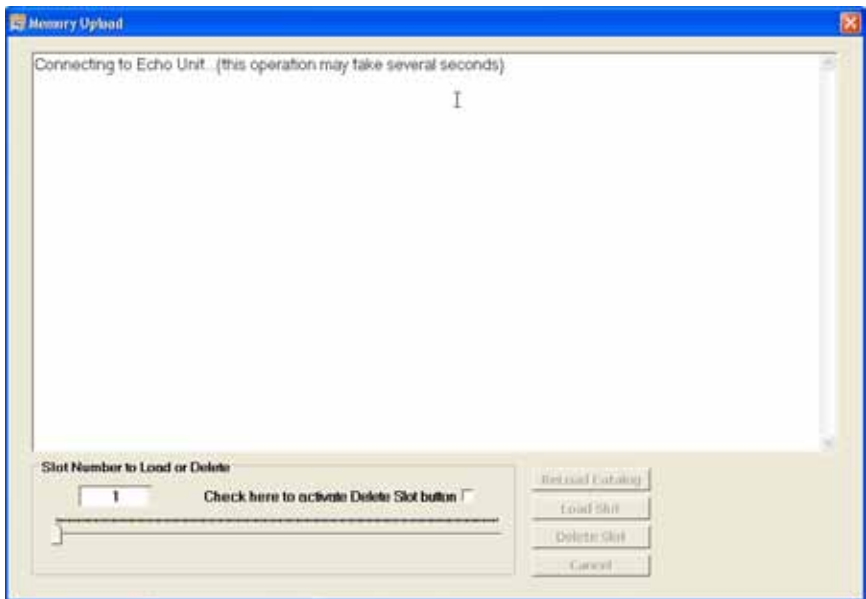

Figure 7-10A
**Memory** – Pressing the Memory button will open a list of plots stored in the VIA Echo's memory. See Figures 7-10A and 7-10B. The Memory button will turn green indicating the presentation you are about to select or have selected is from the VIA Echo's memory as opposed to active current measurements. When plots from memory are being recalled and presented the Modify Sweep, Single and Continuous buttons are not usable.